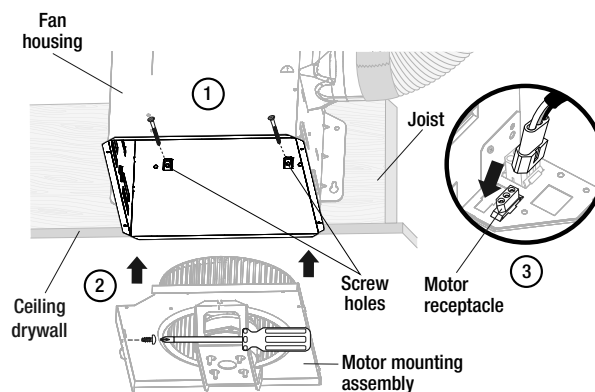

Fig. 15
- Secure the fan housing to the ceiling joist with screws. Ensure the housing is fastened securely. Reinstall the motor mounting assembly with tabs and screw. Plug motor into the receptacle. See figure 15.